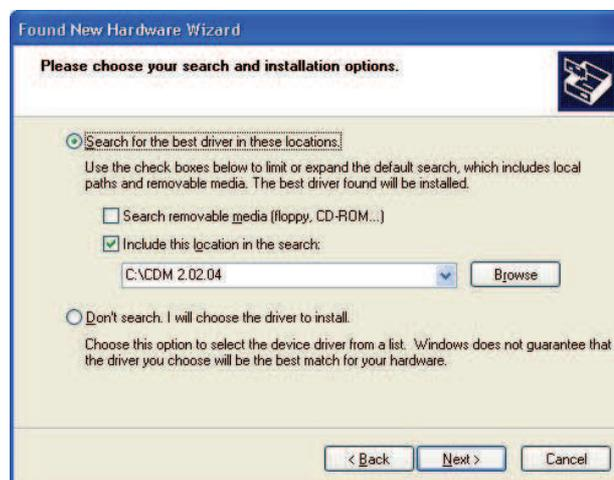

Figure 2.9
- Select "Search for the best driver in these locations" and enter the file path in the combo-box ("C:\CDM 2.02.04" in figure 2.9 below) or browse to it by clicking the browse button. Once the file path has been entered in the box, click next to proceed.